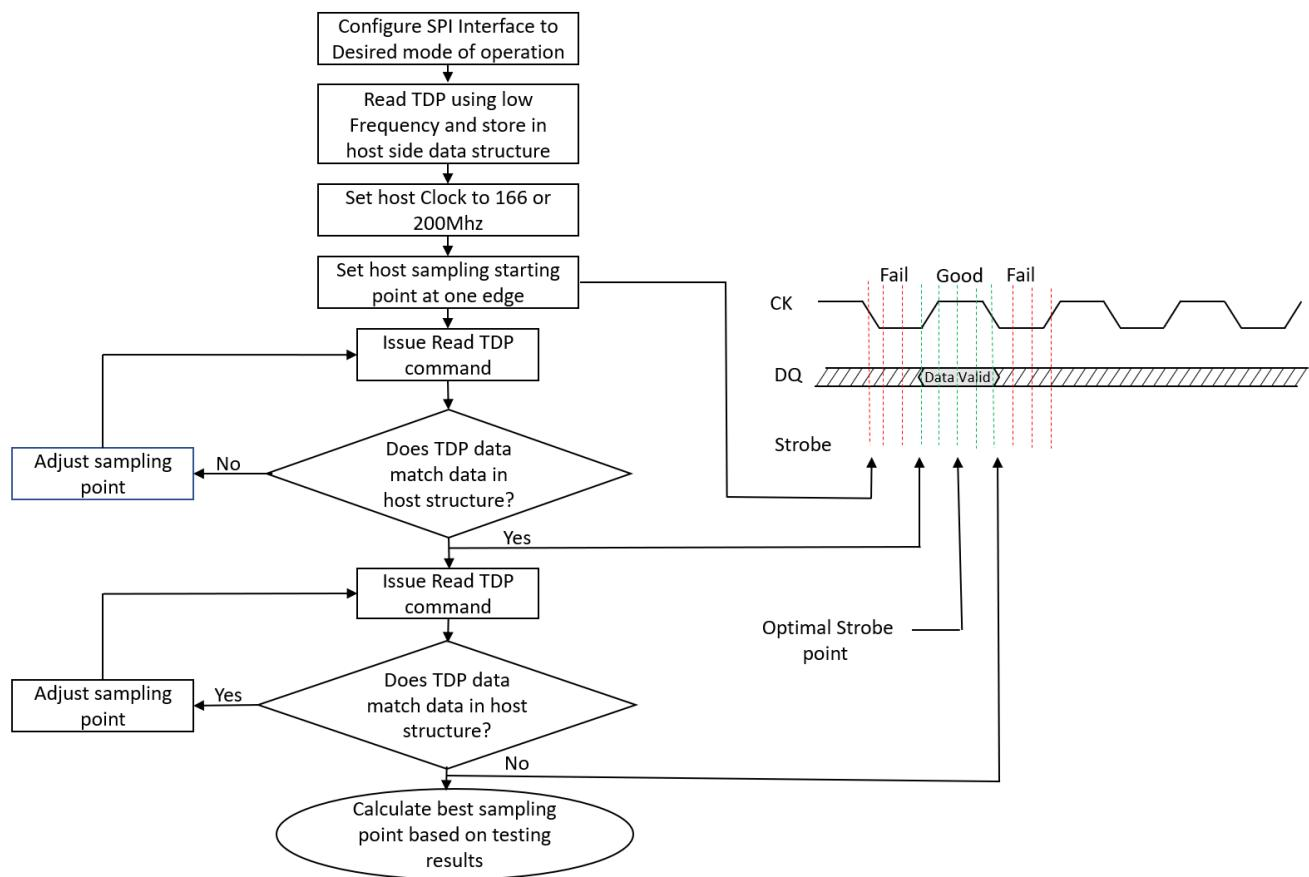

FIGURE 3 TDP LOGICAL FLOW CHART
| Figure 3 TDP Logical Flow Chart.....             | 6 |
For proper TDP operation the following sequence of events is recommended. Please refer to TDP logical sequence flow chart Figure 3.
- d. Follow TDP logical flow chart steps in Figure 3 for determining optimal Data Strobe placement.